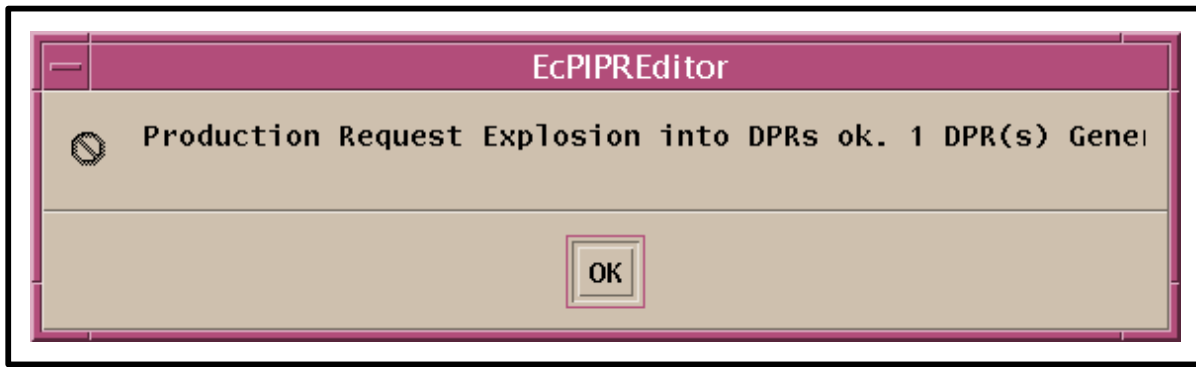

Figure 23. Production Request Explosion into DPRs Dialogue Box
- Eventually a **Production Request Explosion into DPRs** dialogue box (similar to Figure 23) is displayed.